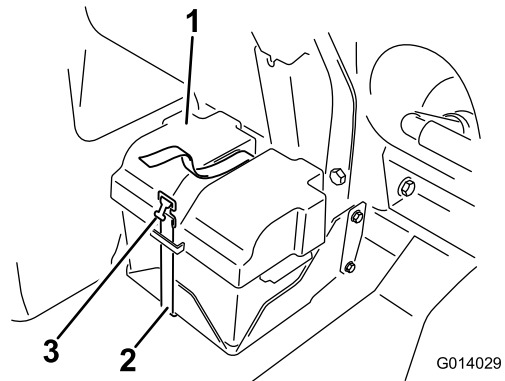

Figure 65
3. install the battery cover and secure it with the strap removed previously (Figure 65).